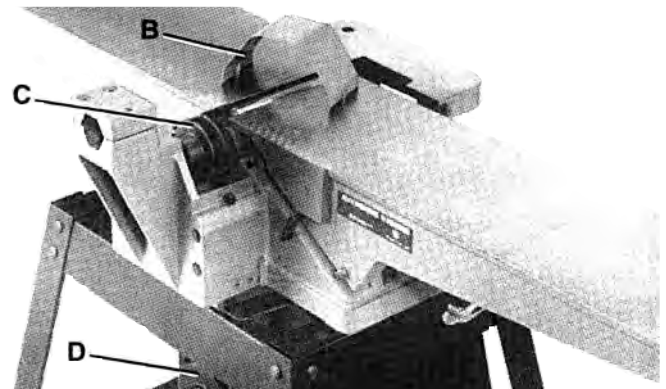
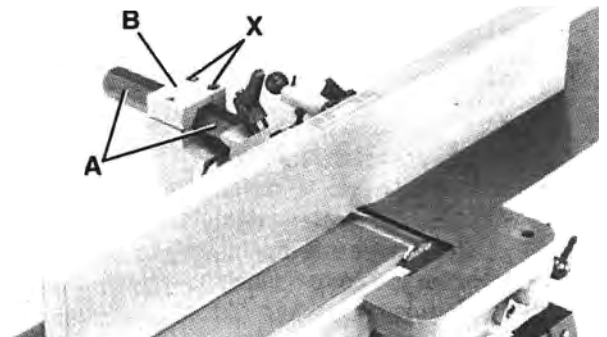

FIGURE 14
FIGURE 16
2. Place the belt in groove of cutterhead pulley (C) Fig. 14, and motor pulley (D).
3. Make certain the motor pulley (D) Fig. 14, is aligned with cutterhead pulley (C). If necessary, the motor pulley (D) can be moved in or out on the motor shaft to provide proper alignment. Then tighten two set screws (C) Fig. 16.
6. Replace cutterhead pulley guard (B) Fig. 14, which was removed in STEP 1.
1. Insert hexagon rod (A) Fig. 16, of fence assembly into bracket (B) on jointer as shown.
NOTE: If fence does not slide in and out easily, loosen two screws (X) Fig. 16, and adjust bracket (B). Then tighten two screws (X).